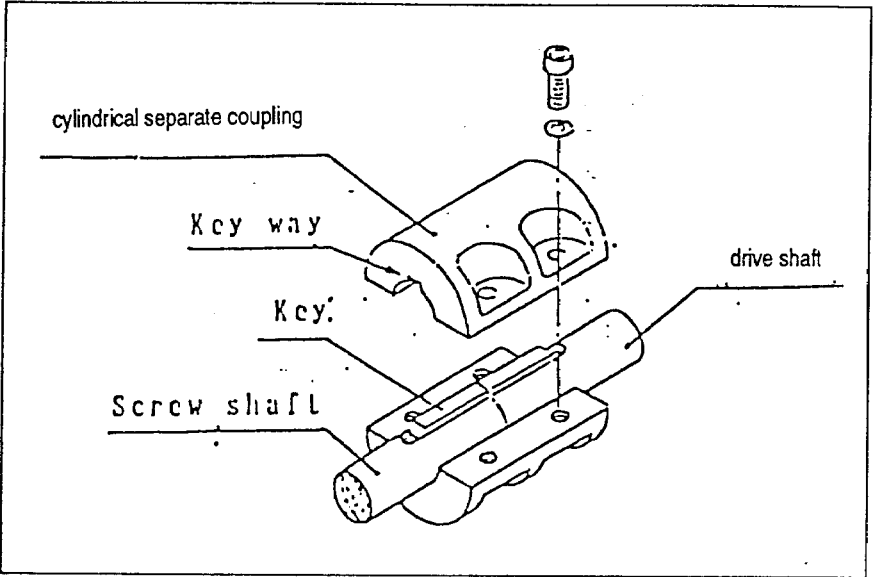

fig. 6
7. Remove cylindrical separate coupling (part #12) (fig. 6).
3. Mount screws A and B (parts #4 and #5). Put screw shaft onto drive shaft, match screw shaft and key of drive shaft (fig. 6).
4. Hold screw shaft and drive shaft tightly with cylindrical separate coupling. Keep even distance on both sides of coupling (approx. 1mm). Marks A and B are engraved on couplings. Match "A" to "A" and "B" to "B" of the couplings and tighten. Hammer lightly key into keyway of the coupling (figs. 6 and 9).